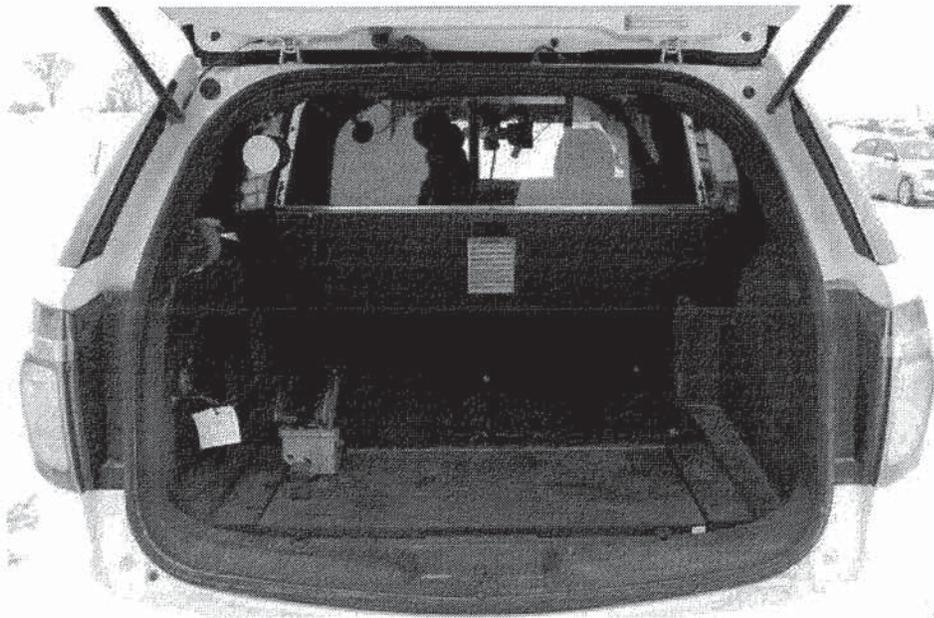

Figure 27 – Example of the approved cargo barrier installation in an SUV-type marked MP vehicle
37. *Figure 27* illustrates an example of an **acceptable** cargo barrier installation.